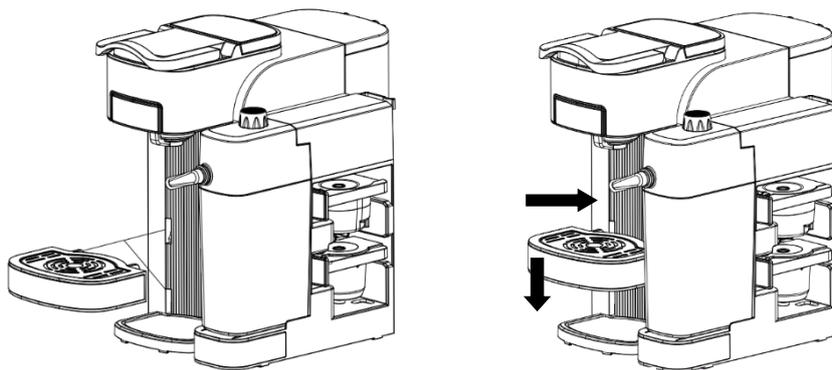

Figure 4
2. There are two fixed positions for the drip tray on the product. When placing the drip tray, first align the notch on the drip tray with the fixed slots on the machine, insert it into the slots, and then press down to ensure the drip tray is firmly assembled before placing the cup. Users can choose the height of the drip tray based on the height of the cup, it is recommended to place it on the upper layer when using espresso coffee adapter and Nespresso capsule adapter for better visual effect and crema thickness (see Figure 4).